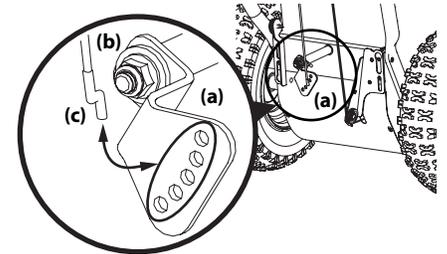

Figure 2-52
2. Lift the shift cable index bracket (a) up to create slack in the cable (b). See Figure 2-52.